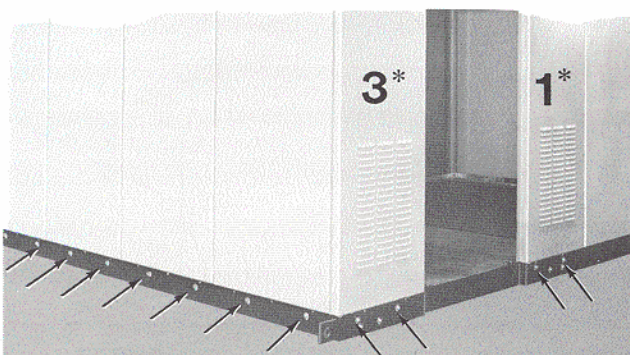

FIGURE 49
3. Assure that aisle wall support angles are installed completely around aisle base in preparation for mounting walls. Loosen support angle bolts for adjusting aisle walls during assembly. See Figure 49.